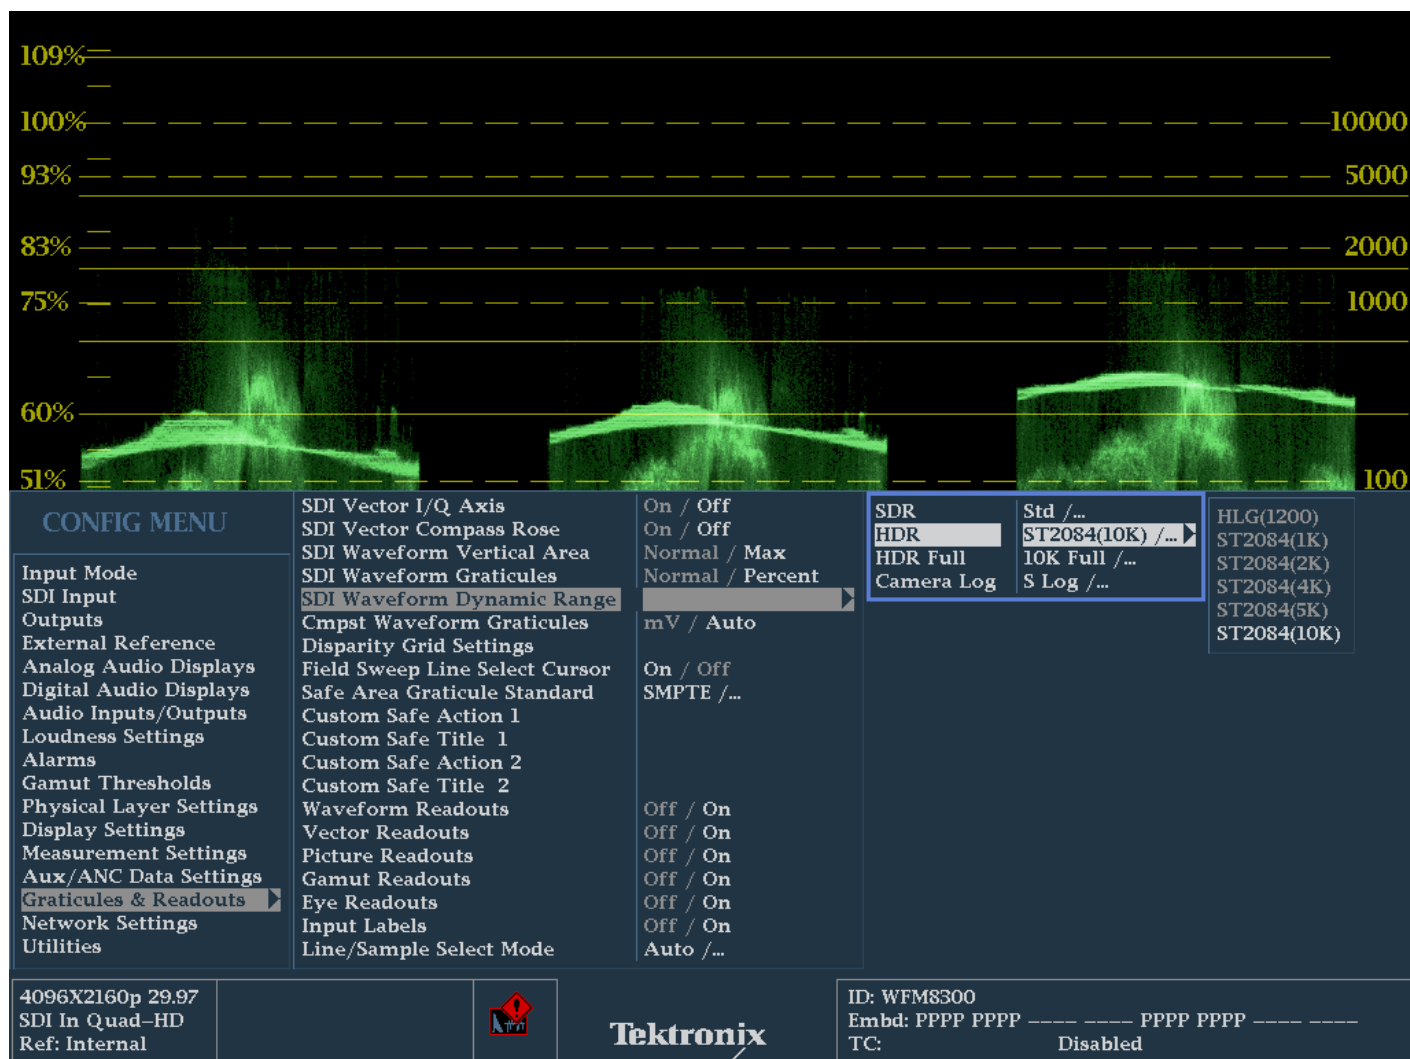

FIGURE 2. SDI Waveform Dynamic Range Configuration Menu.
- Each sub menu has a range of graticules that are available for that mode, for instance HDR can select between **HLG(1200)**, **ST2084 (1K)**, **ST2084 (2K)**, **ST2084 (5K)**, **ST2084 (10K)** as shown in Figure 2.
Note: For HDR / HDR Full and Camera Log monitoring the waveform Graticules and Readouts for SDI Vertical Area and with the SDI Waveform Graticule have no effect on the graticule as shown in Figure 2.